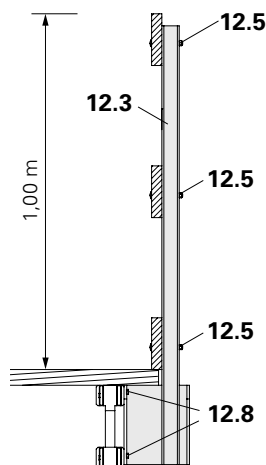

Fig. A1.33a
3. Use wood screws (6x) 6 x 80 DIN 571 (12.8) for fixing to girder. (Fig. A1.33a)
- Round head bolts M8 x 125 (12.7) are to be used for the guardrail boards. (Fig. A1.33a)